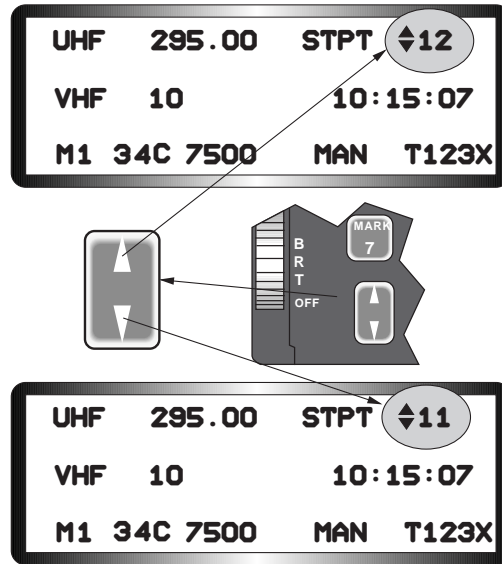

Figure 1-29 ICP Increment/Decrement Function
**Increment/Decrement.** The Increment/Decrement (INC/DEC) rocker switch is used by the pilot to rapidly increase or decrease numerical data identified by the INC/DEC up down arrow symbol on the DED (Figure 1-29). For example, on the CNI page with the INC/DEC arrows next to the current steerpoint, pressing the upper portion of the switch will increase the steerpoint number while pressing the lower portion of the switch will decrease the steerpoint number. Generally only one item per page may be increased or decreased with the INC/DEC switch. However, on the CNI page the INC/DEC arrows may be positioned with the data control switch such that the UHF preset, VHF preset, and current steerpoint may be increased or decreased with the INC/DEC switch.